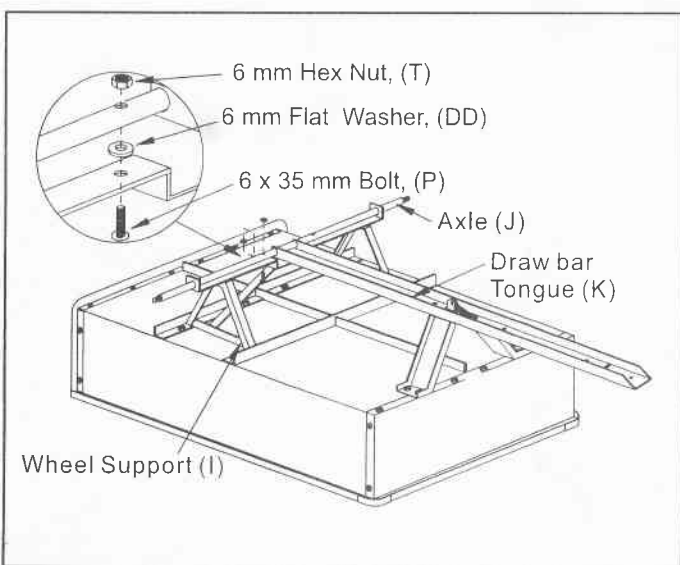

FIGURE 11
13. To prevent accidental tipping during the following assembly procedures, lower the cart to rest upside down on its top flanges, so that the wheel support is facing up. See figure 11.
17. Assemble the axle (J) through the wheel support (I) and the drawbar tongue (K), with the open side of tongue facing away from the cart. Fasten the axle to the wheel support using two 6 x 35 mm bolts (P), 6 mm flat washers (DD) and 6 mm hex lock nuts (T). Tighten. See figure 11.